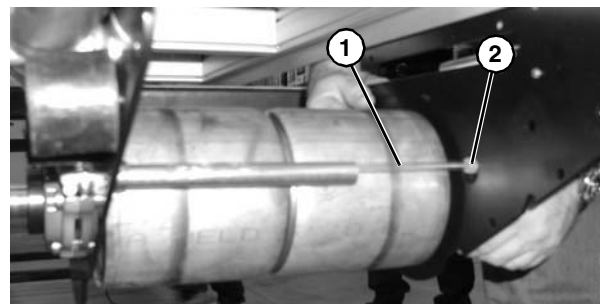

Figure 80
7. Disconnect flexible air hose (**Figure 80, item 1**) from fitting (**Figure 80, item 2**).